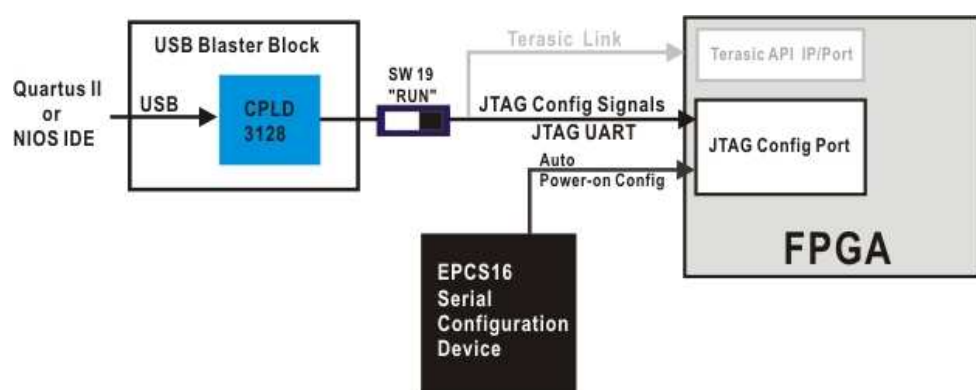

Figure 3.1. The JTAG configuration scheme
DE2 provides users both JTAG and AS mode to download bitstream to the FPGA. The first and recommended method is to configure FPGA via JTAG mode. Figure 3.1 describes the block diagram of the JTAG programming method. Follow the steps below to program the FPGA:
- ✓ Now users can use JTGA mode to configure FPGA using **SOF** file. The connection is shown in Figure 3.1.